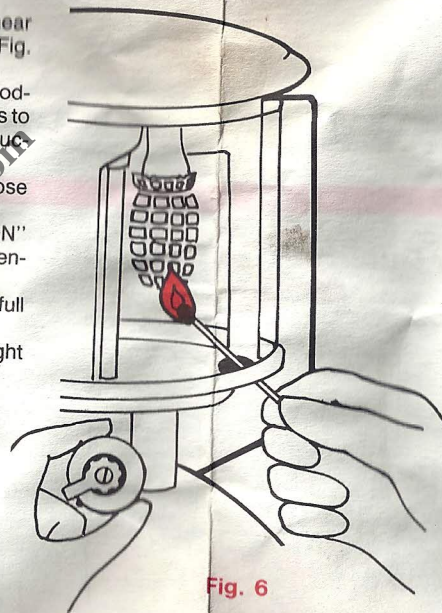

Fig. 6
1. Push lighted MATCH through lighting hole; hold near mantle and turn FUEL VALVE to the "ON" position. (Fig. 6) The mantle will take a few seconds to light.